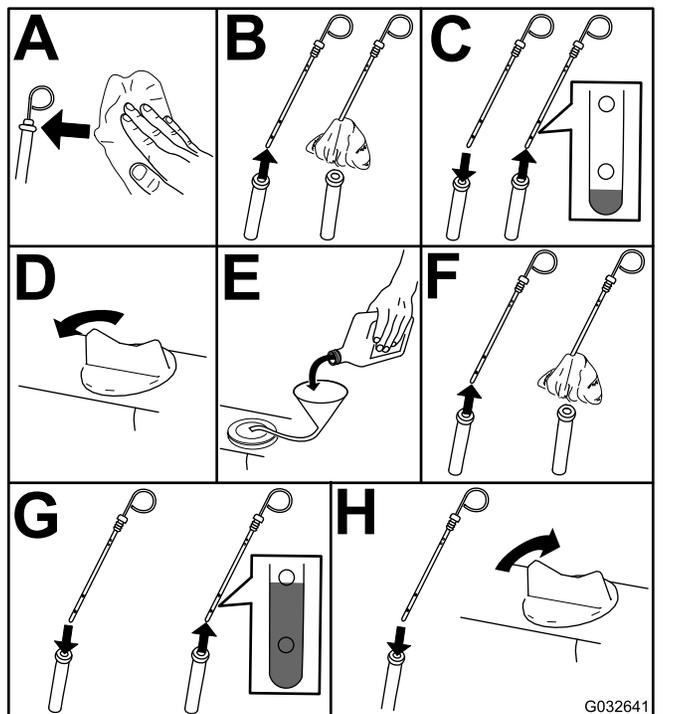

Figure 49
3. Check the engine-oil level (Figure 49).